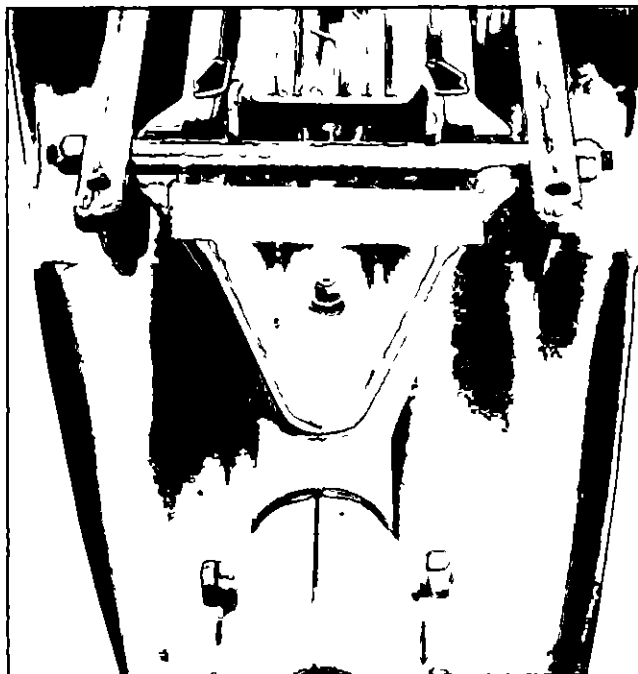

Figure 7. Lubricating Swivel Bracket.
- 1 Tilt motor up and lock in position Figure 7
- 3 Wipe clean and apply a light coating of lubricant to areas indicated in Figure 7